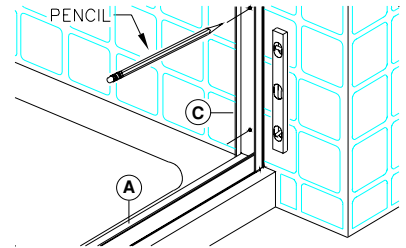

figure 4
5. Place Wall Jamb (C) on to ends of Sill (A) and up against shower walls as shown in figure 4. Plumb the Jamb, then pencil mark their installation hole locations on the shower walls (3 per jamb). Remove Wall Jamb. Using a 3/16" masonry bit, drill 1" deep installation holes in locations previously marked. Insert Plastic Screw Anchors (H) into holes.